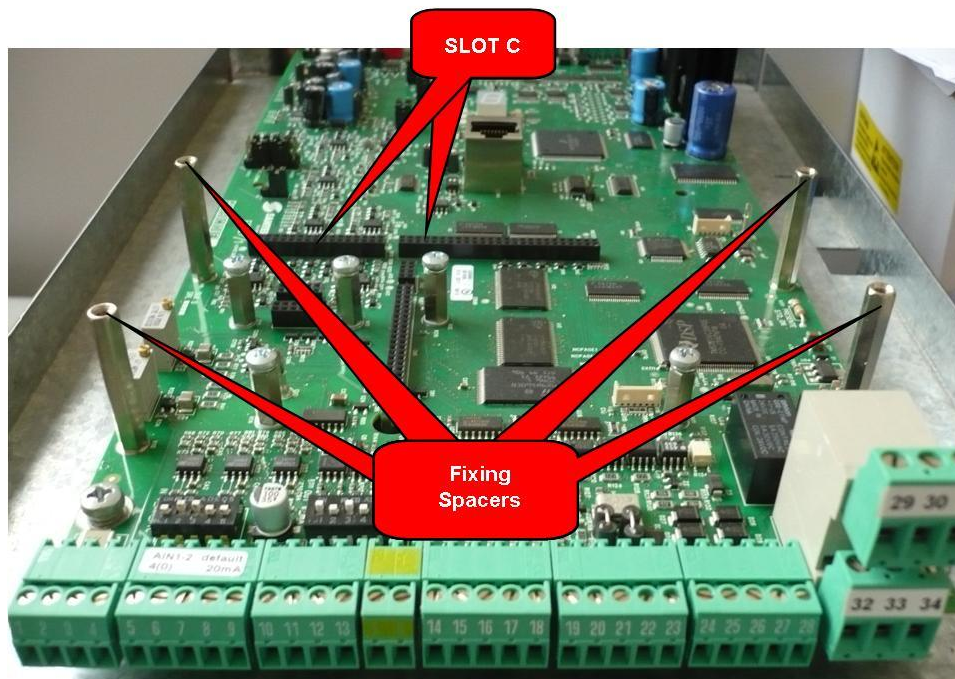
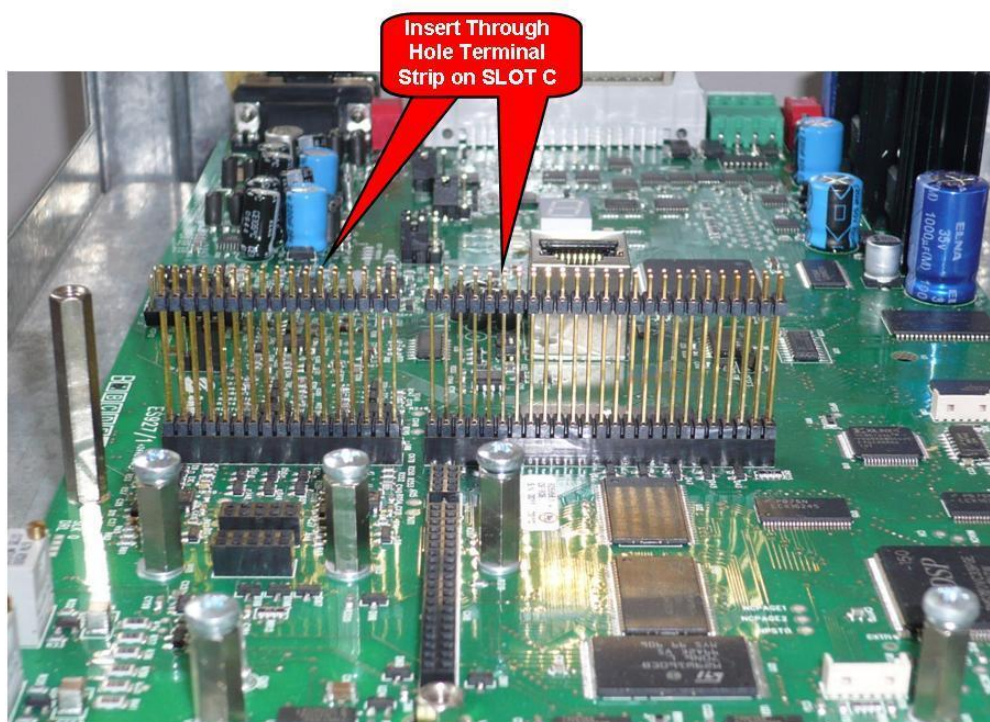
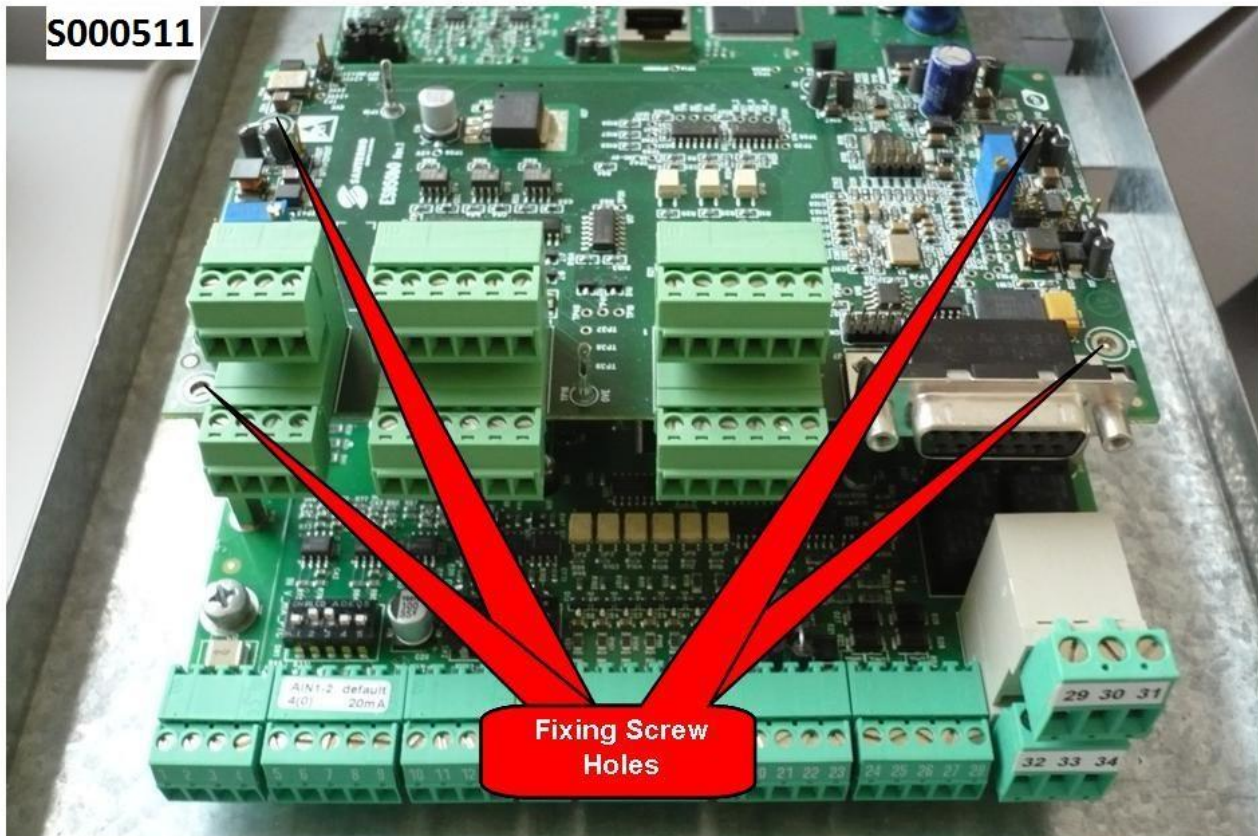

Figure 165: Location of slot C inside the terminal board cover of the drive
Figure 166: Inserting terminal strips to slot C
Figure 167: Fixing the ES966 board inside the drive
4. Insert the ES966 board into Slot C. Make sure that the terminal strips with the two connectors in slot C (CN7A and CN7B) are correctly aligned. See Figure 165, Figure 166 and following figures. If the board is properly installed, the four fixing holes are aligned with the housing of the relevant fixing spacers screws. Check if alignment is correct, then fasten the four fixing screws as show in Figure 167.